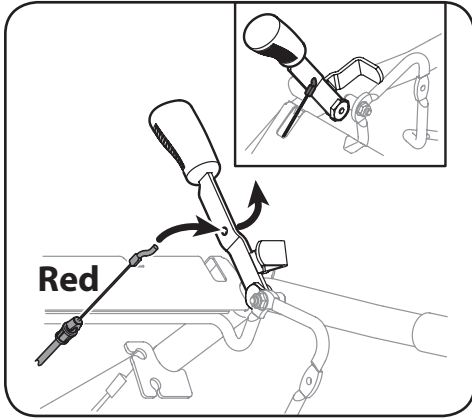

Figure 3-5
1. Carefully unwrap the reverse clutch control cable (red) from its shipping position and route it up the right side handle. Position the cable so that it rests above the small groove on the handle assembly in front of the reverse drive handle. See Figure 3-5.
2. Insert the cable z-fitting into the slot in the control panel from the inside of the handle outward. See inset in Figure 3-5.